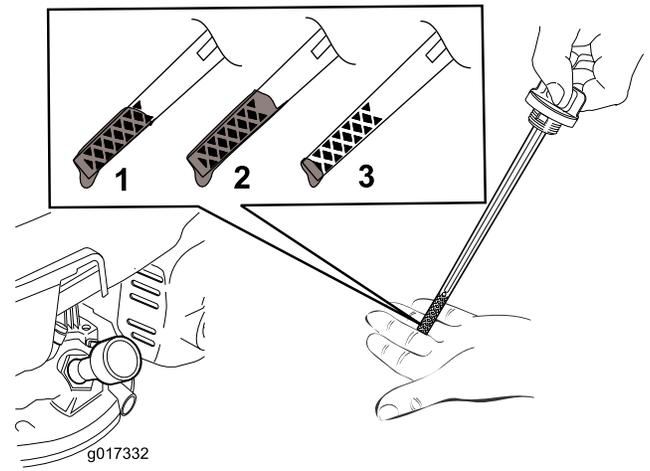

Figura 6
2. Retire la varilla (Figura 6).